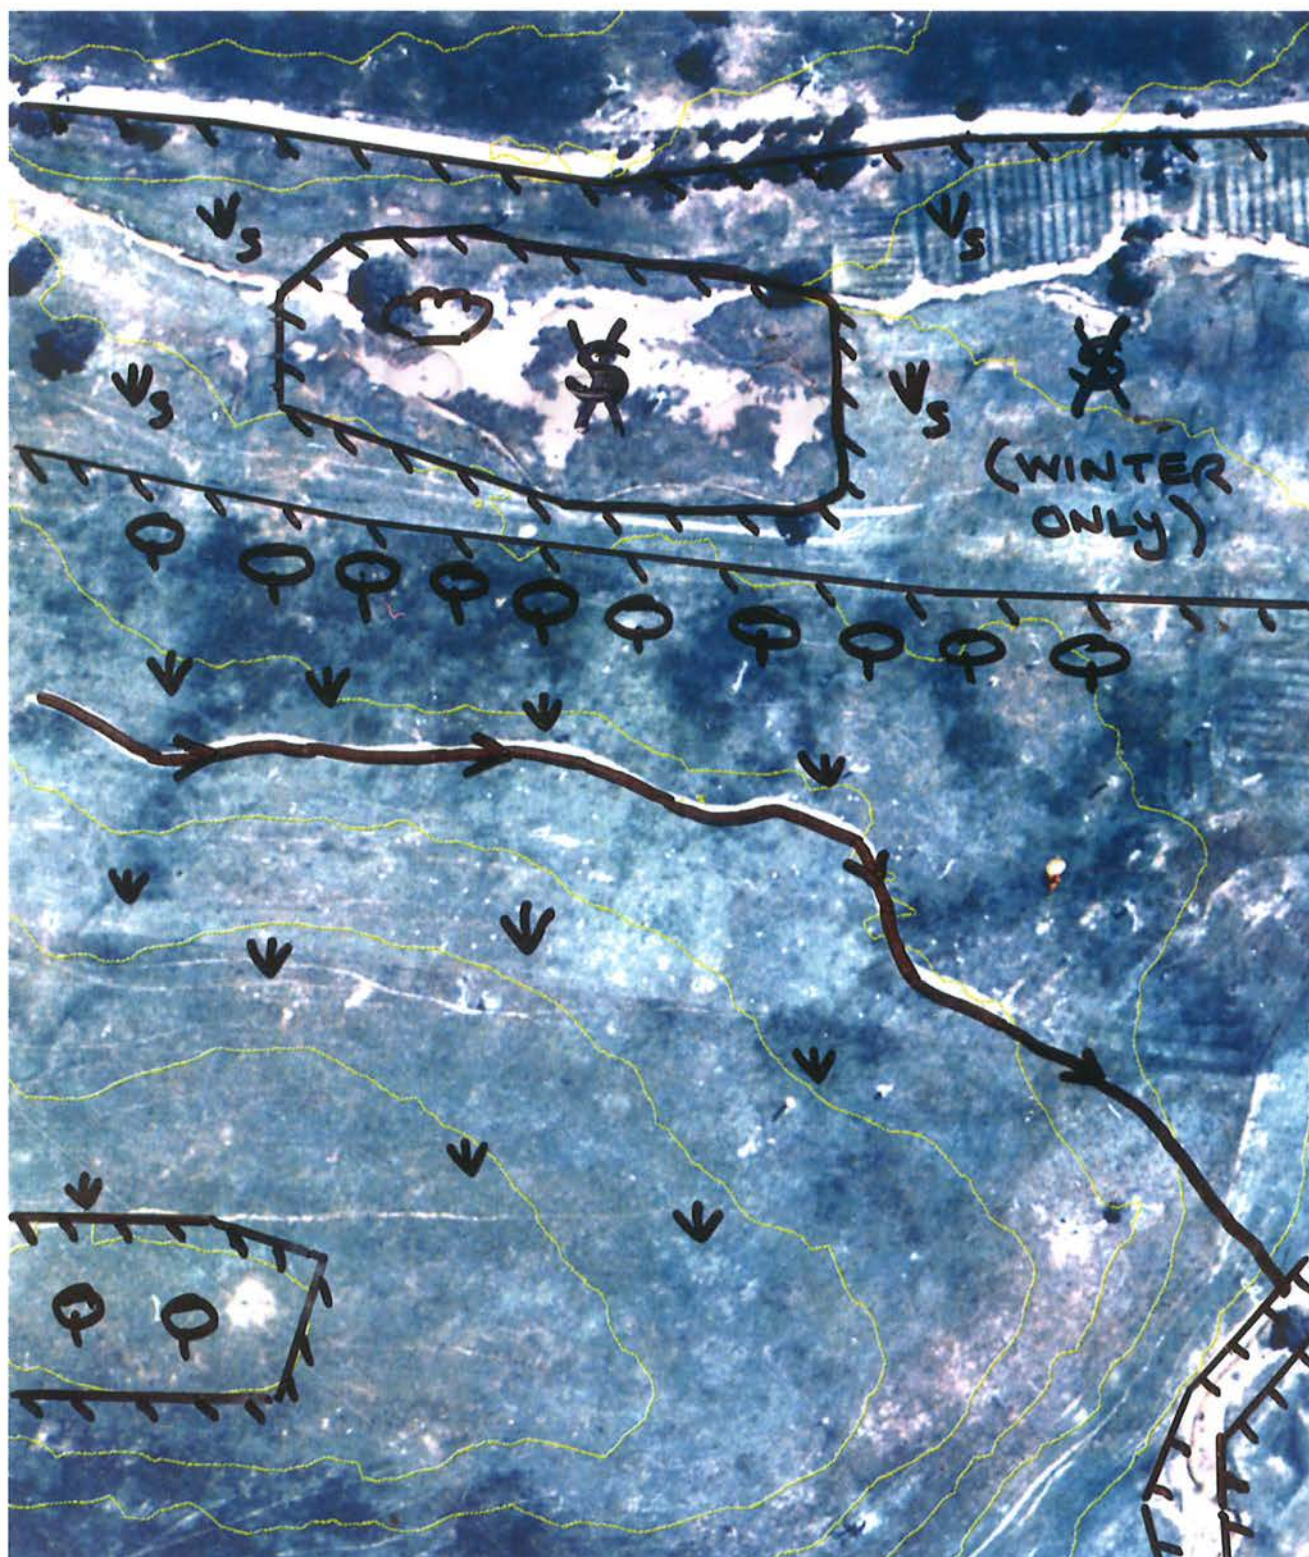

Figure 5b Second plastic overlay with management options added
- Then select management options associated with each of the soil profile photographs in the key, or the example slope sequence in Figure 3. Record your management decisions, with appropriate boundaries, on the second plastic overlay. (See Figure 5b) A useful set of symbols is;